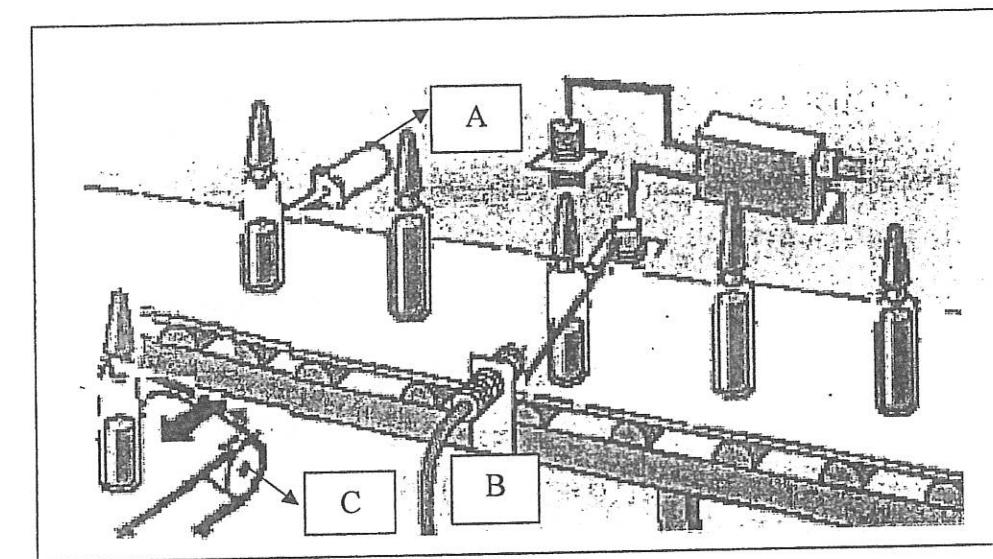

Figure 1 / Rajah 1
- c) Based on Figure 1, sensor A will detect the cap which is made of plastic, while sensor B will detect the level of the perfume in the vials. Identify the type of sensors that can be used for sensor A, sensor B and output device C.